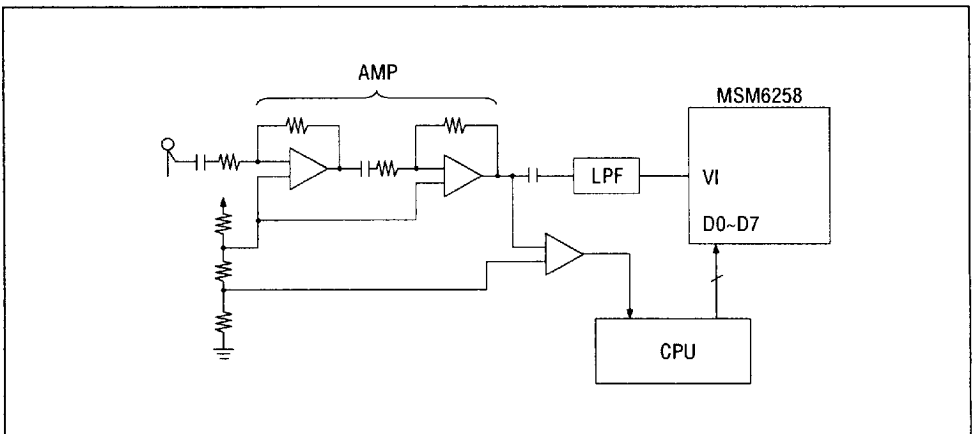

Figure 34 Voice-Triggered Starting Circuit for CPU Interface
- Figure 34 shows an example of a voice-triggered starting circuit for the CPU interface with MSM6258.